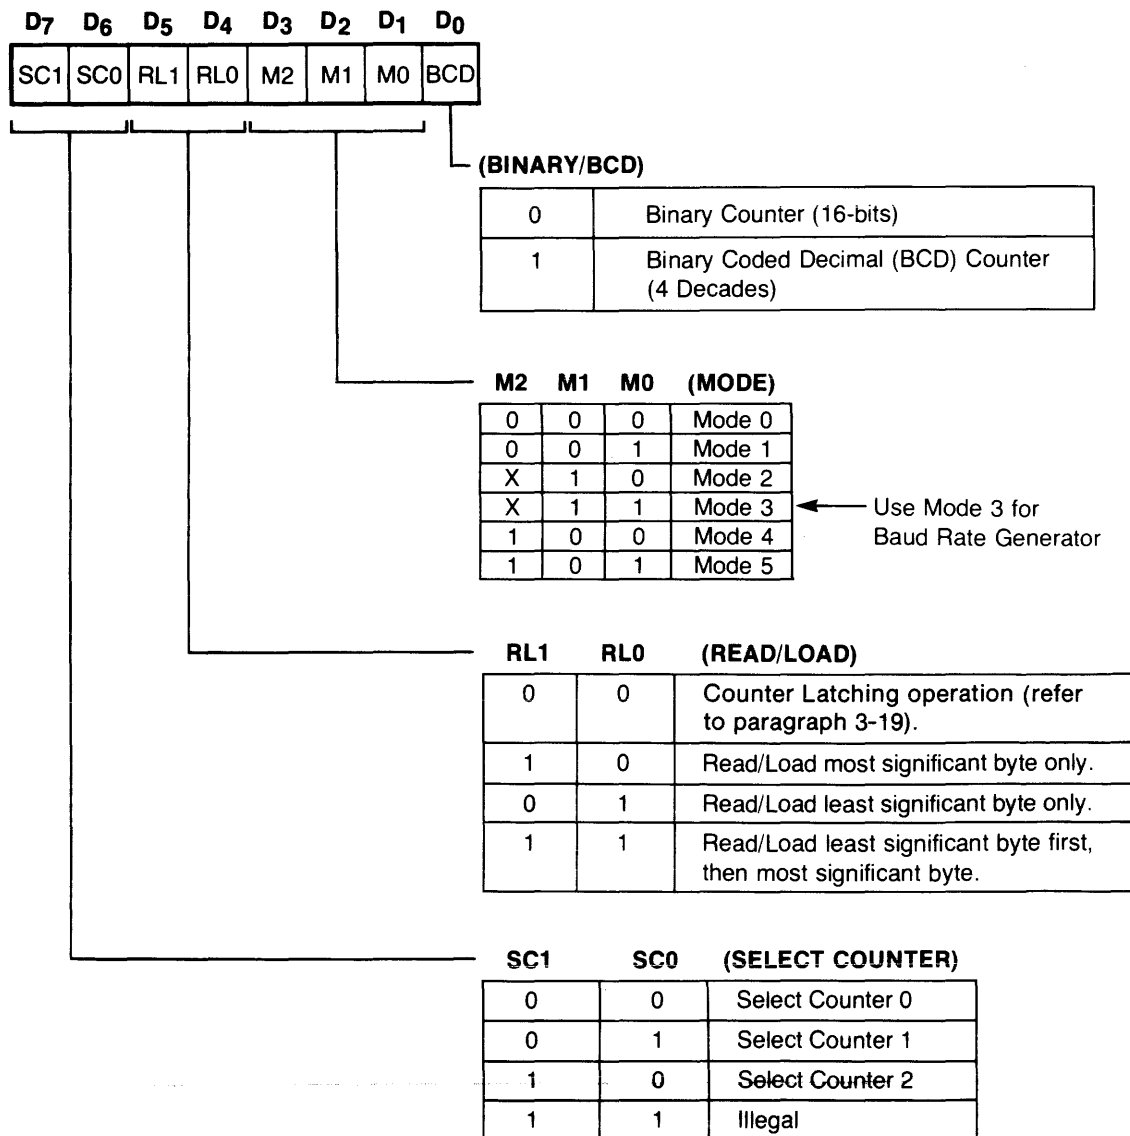

Figure 3-8. PIT Mode Control Word Format
- a. A mode control word (figure 3-8) is written to the control register for each individual counter.
The mode control word (figure 3-8) does the following:
The count mode selected in the control word controls the counter output. As shown in figure 3-8, the PIT chip can operate in any of six modes:
- a. Write mode control word for Counter 0 to address X6. Note that all mode control words are written to X6, since the mode control word specifies which counter is being programmed. (Refer to figure 3-8.)